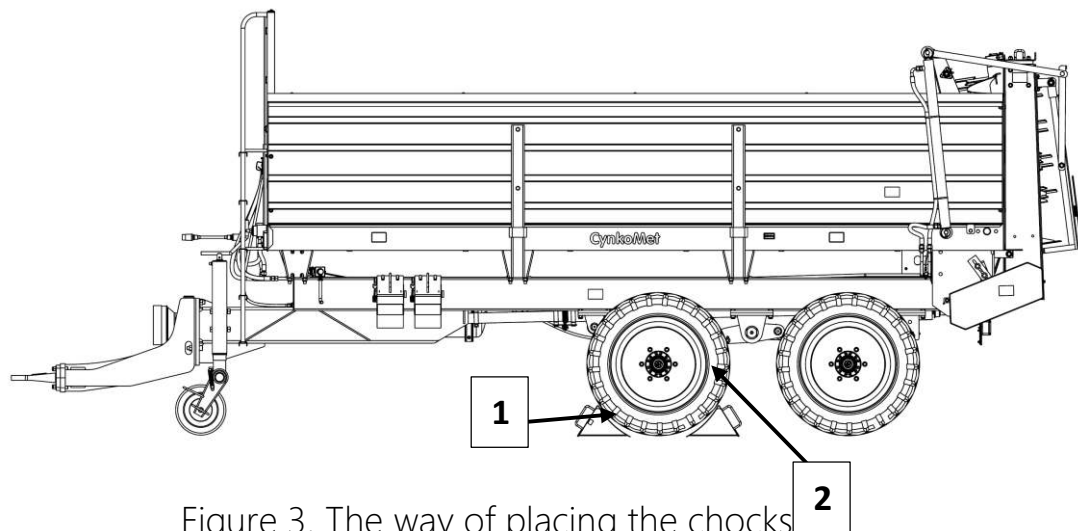

Figure 3. The way of placing the chocks
- It is forbidden to park on the slopes with a loaded and unsecured machine. Securing is based on stopping with the service brake, parking brake and planting chocks under the wheels. The chocks (1) should be planted only under one wheel (2) (one front wheel and one on the back - Fig. 3).